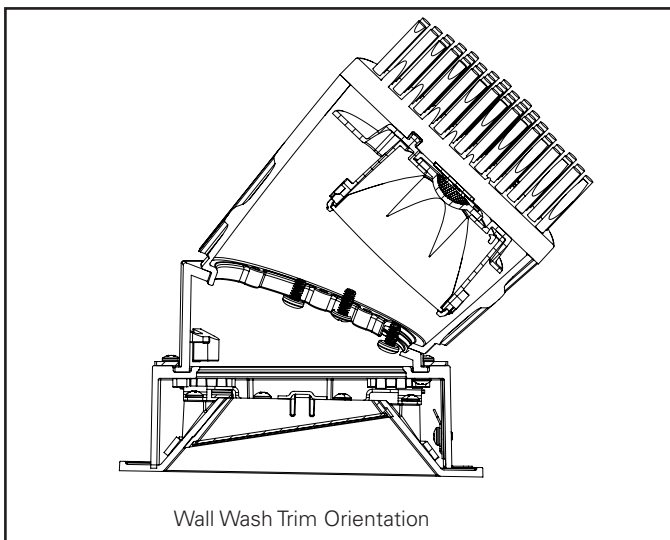

Figure 13.
7. If using a wall wash trim, the angle of the trim lens should align with the direction and angle of the mechanism head (Figure 13). Optimal tilt for corner and single wall wash is 15°, double wall wash is 0°.